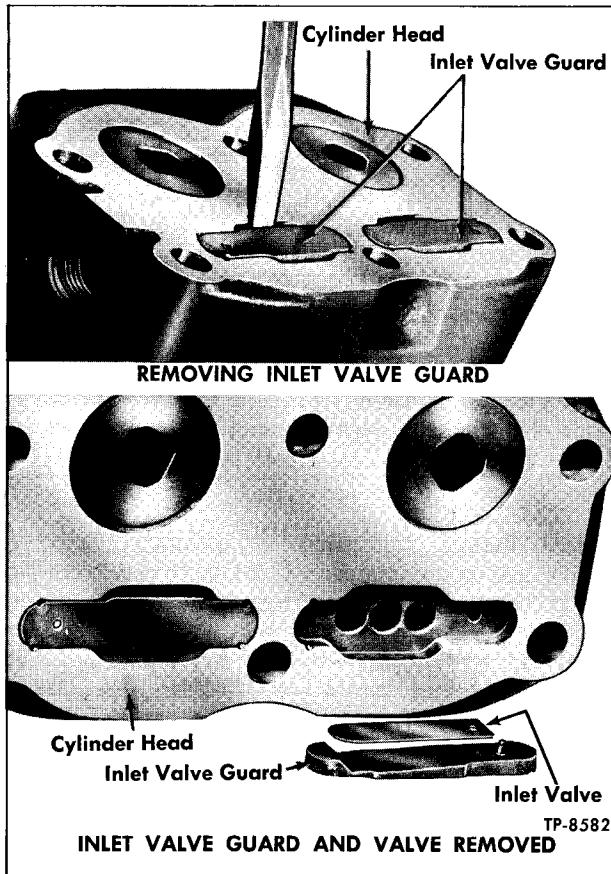

Figure 4—Inlet Valve and Guard Removal
2. Using a screwdriver, pry inlet valve guard and pin assemblies from bottom of cylinder head; then remove inlet valves in manner illustrated in figure 4.